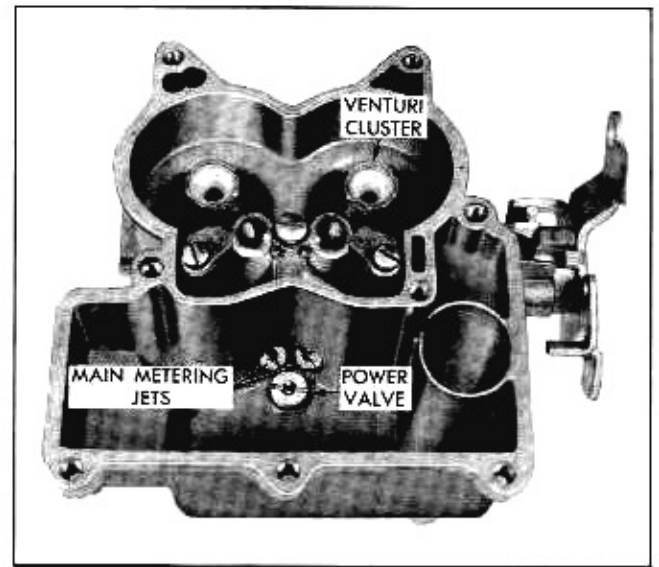

Fig. 6B-46 Location of Main Metering Jets
4. Remove two main well inserts from the main well (Fig. 6B-49).